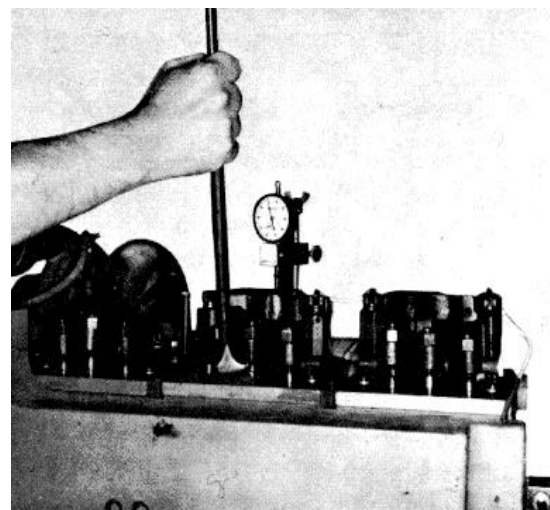

Fig. 2-54, (K114104). Actuating rocker lever
5. Using 3375009 Rocker Lever Actuator Assembly and Support Plate, bottom the injector plunger, check the zero (0) setting. Fig. 2-54. Allow the plunger to rise slowly; the indicator must show the plunger travel to be within the range specified in Table 2-18.